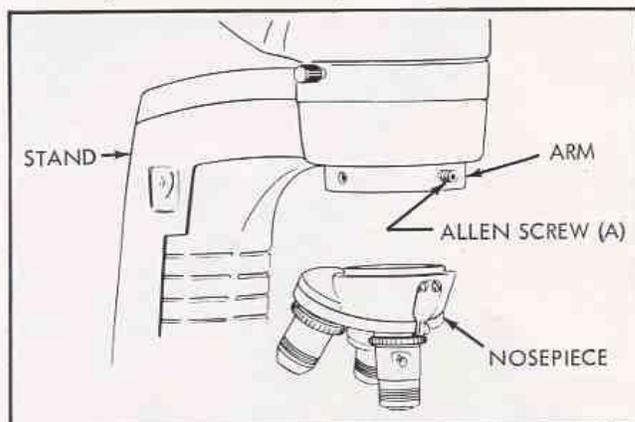

Figure 37. Removing Nosepiece
To remove the nosepiece (see figure 37), lower the nosepiece with the coarse adjustment until the front allen screw (A) becomes accessible. Back off the allen screw, and remove the nosepiece. Do not alter the position of the two allen screws on the sides of the arm, these are a factory set adjustment.